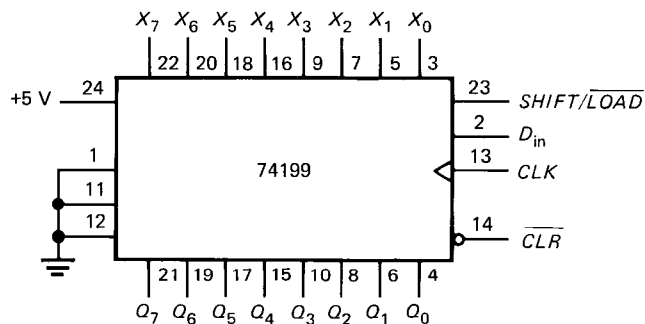

Fig. 8-30
- 8-5. The clock frequency is 2 MHz. How long will it take to serially load the shift register of Fig. 8-30?
- 8-6. In Fig. 8-30,  $Q = 0001\ 0110$ . If  $SHIFT/LOAD$  is high and  $D_{in}$  is high, what does  $Q$  equal after three clock pulses?
- 8-4. A 74199 is an 8-bit shift-left register with a single control signal, as shown in Fig. 8-30. When  $SHIFT/LOAD$  is low, the circuit loads the  $X$  word on the next positive clock edge. When  $SHIFT/LOAD$  is high, the register shifts the bits to the left.